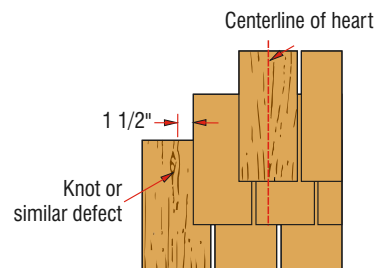

Figure 5a: Course Alignment
5. In lesser grade shingles (Figure 5a) containing both flat and vertical grain, joints should not be aligned with centerline of heart.